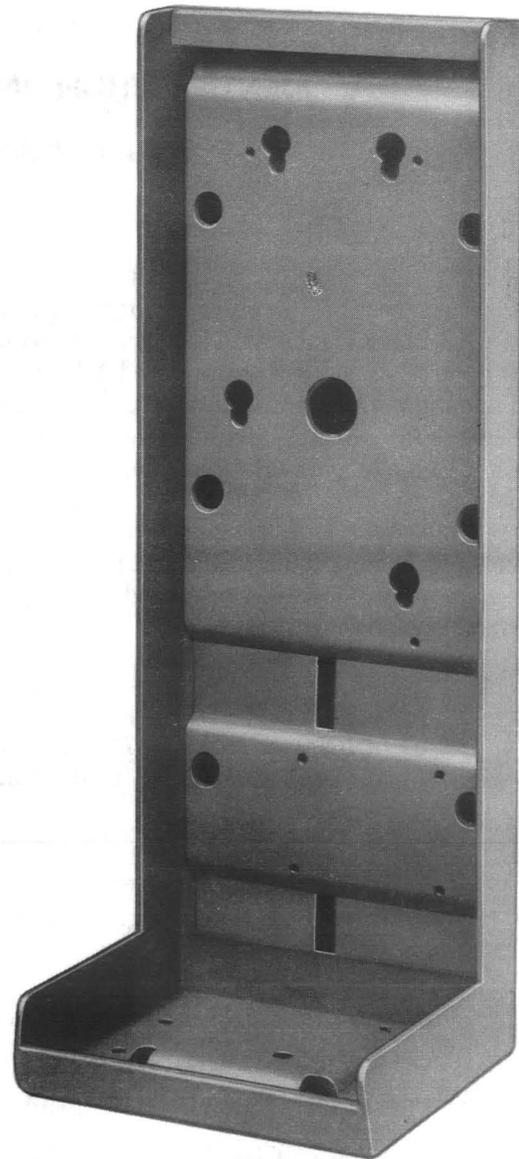

Fig. 3—KS-21676, List 1 Backboard Assembly
2.07 A KS-21676, List 1 L-shaped backboard (Fig. 3) is bolted to the structural rails under the stainless steel shelf and also to the backplate.